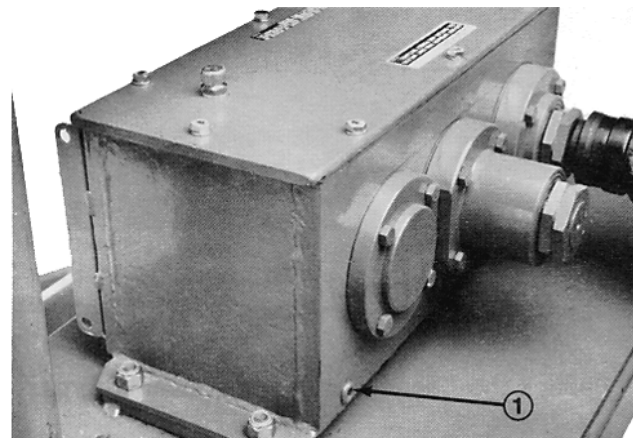

Figure 22
**NOTE:** Should major failure of the pick-off gear case components occur, the gear oil will be contaminated and should be drained. Flush the gear case and add fresh oil. The gear case oil drain plug is at the lower left rear side of the case (Fig. 22). Gear case capacity is 5.5 liters.